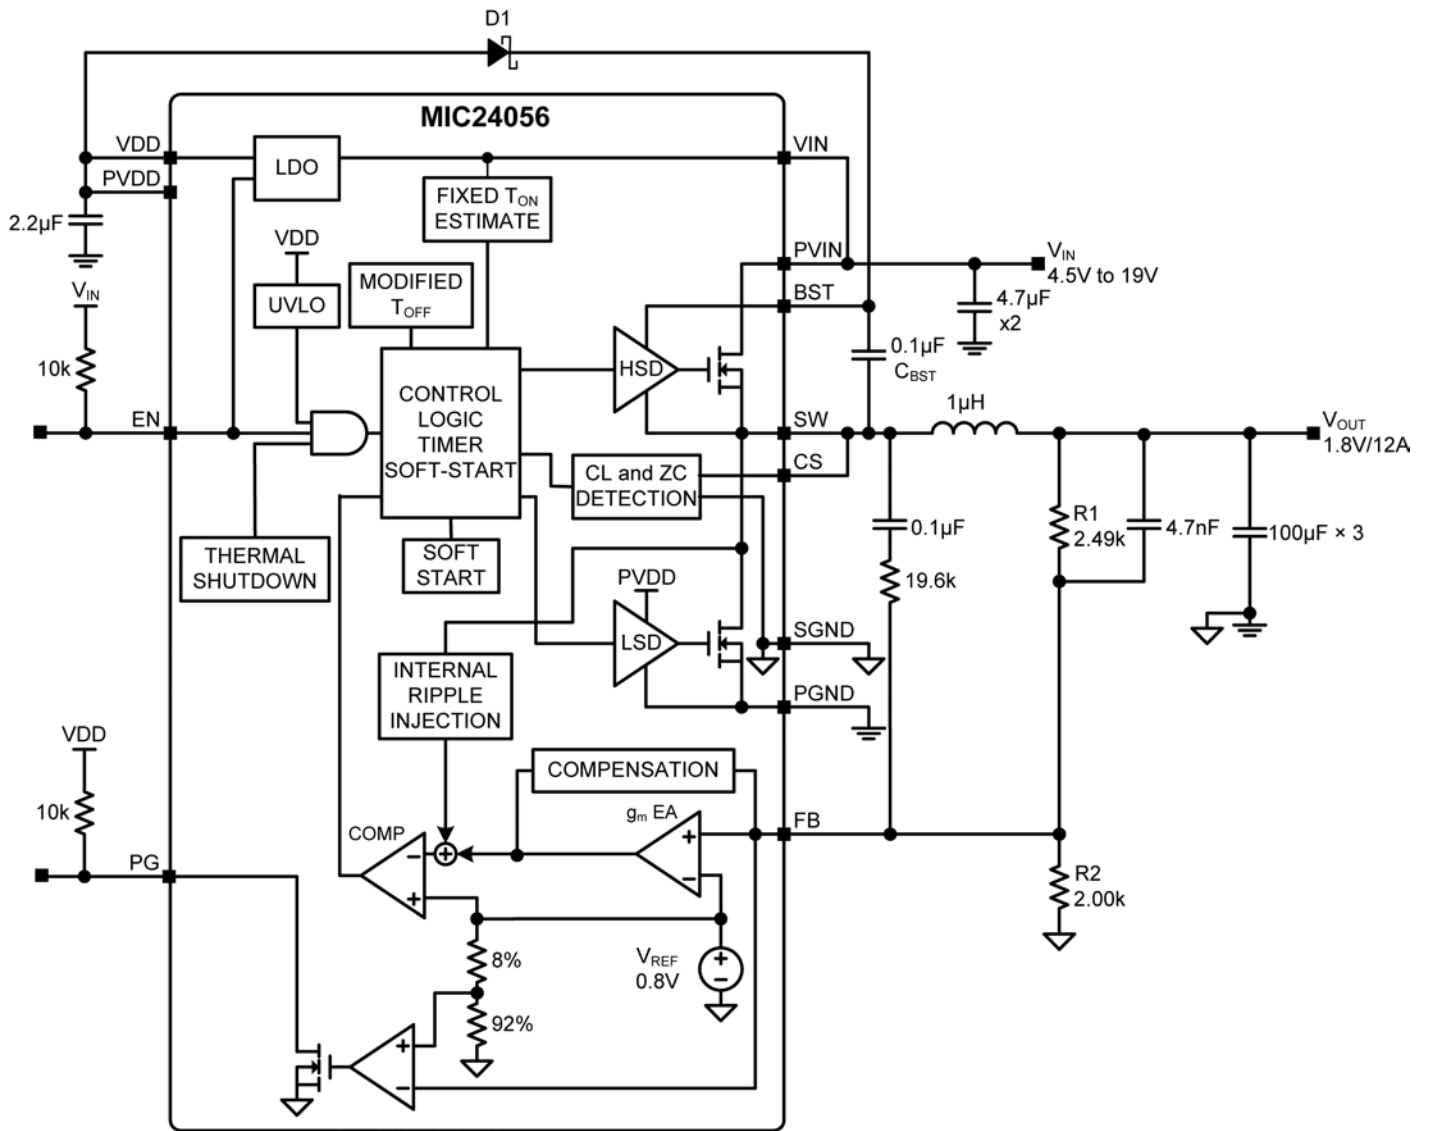

Figure 1. MIC24056 Block Diagram
The MIC24056 is able to operate in either continuous mode or discontinuous mode. The operating mode is determined by the output of the zero cross comparator (ZC) as shown in Figure 1.
The block diagram (Figure 1) shows a bootstrap circuit, consisting of D1 (a Schottky diode is recommended) and  $C_{BST}$ . This circuit supplies energy to the high-side drive circuit. Capacitor  $C_{BST}$  is charged, while the low-side MOSFET is on, and the voltage on the SW pin is approximately 0V. When the high-side MOSFET driver is turned on, energy from  $C_{BST}$  is used to turn the MOSFET on. As the high-side MOSFET turns on, the voltage on the SW pin increases to approximately  $V_{IN}$ . Diode D1 is reverse biased and  $C_{BST}$  floats high while continuing to keep the high-side MOSFET on. The bias current of the high-side driver is less than 10mA so a 0.1 $\mu$ F to 1 $\mu$ F is sufficient to hold the gate voltage with minimal droop for the power stroke (high-side switching) cycle, i.e.  $\Delta BST = 10\text{mA} \times 1.67\mu\text{s}/0.1\mu\text{F} = 167\text{mV}$ . When the low-side MOSFET is turned back on,  $C_{BST}$  is then recharged through D1. A small resistor  $R_G$ , which is in series with  $C_{BST}$ , can be used to slow down the turn-on time of the high-side N-channel MOSFET.